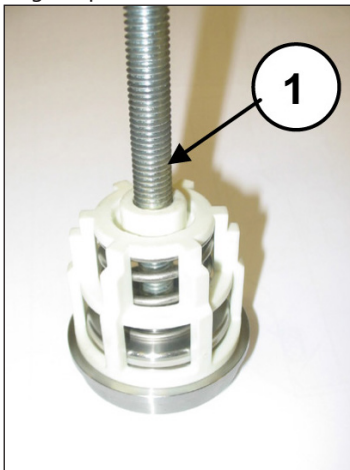

Fig. 37
- Disassemble the suction and outlet valve units, screwing a sufficiently long M10 screw in such a way as to be able to reach the valve plate and extract the valve guide from the valve seat (Fig. 37, pos. ①).